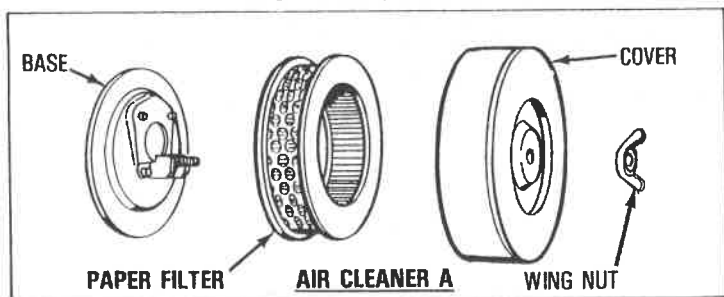

Figure 6
A. TO SERVICE FILTER(S) (see Figure 6 or 7):
AIR CLEANER A (see Figure 6):